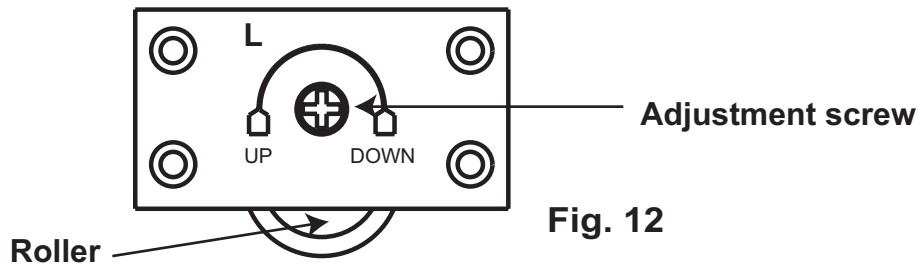

Fig. 12
12. To adjust the doors, turn the screw in the middle of the Lower Door Glide (L) counterclockwise to raise the door and clockwise to lower the door. See Figure 12.